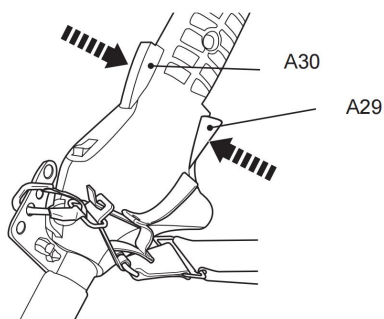

Fig. 39
10. Squeeze the throttle interlock (A30) and throttle trigger (A29) to operate the product (Fig. 39).